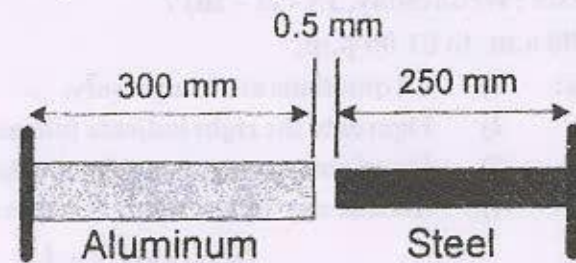

Fig. 2
- b) At room temperature ( $21^\circ\text{C}$ ) a 0.5 mm gap exists between the ends of aluminum and steel rods of lengths 300 mm and 250 mm respectively as shown in Fig. 2. When temperature is reached  $160^\circ\text{C}$ , determine normal stress in aluminum bar and change in length of aluminum bar. [13]